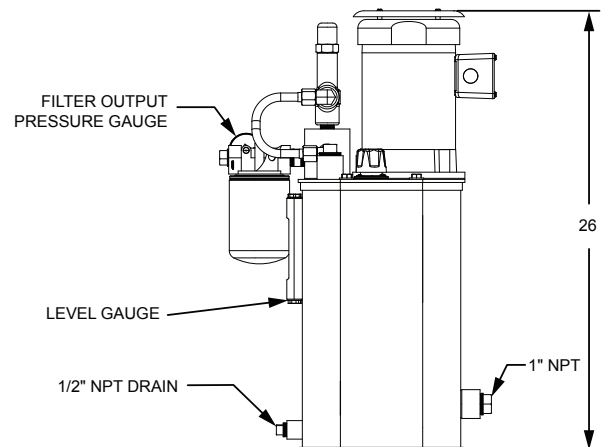

Figure 2 - OLF-2 Dimensions
- Connect an oil supply line (not included) from the 3/4" NPT (female) output of the OLF-2 system to the circulating oil inlets on the housings. Use a Tee fitting at the OLF-2 system output to ensure both bearings get an equal supply of oil. Connection details for each type of Sleeve bearing are provided below (see Figure 2).